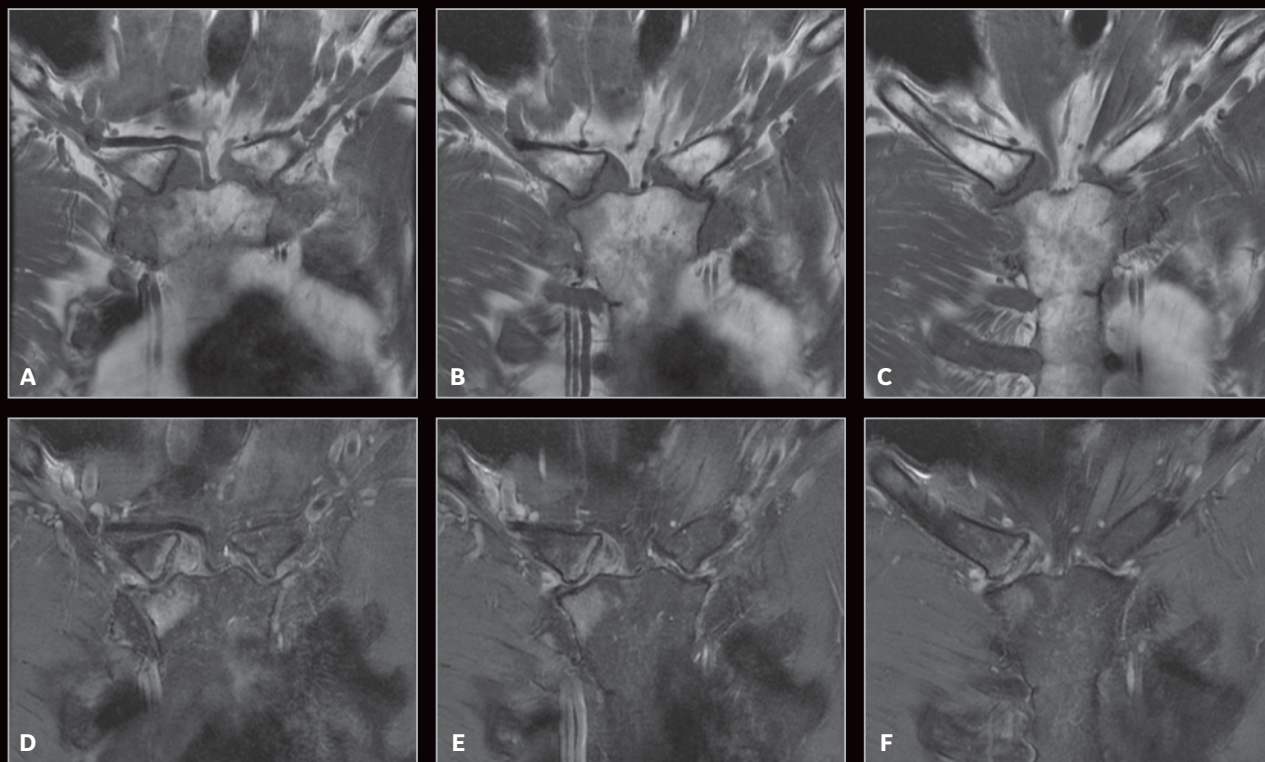

Figure 2. Sternoclavicular joint imaging with AIR™ AA Coil. (A-C) T1 coronal and (D-F) T2 coronal FatSat.
Figure 2. Coronal PD FSE shoulder exam (A) without PROPELLER, $0.3 \times 0.4 \times 3$ mm, 4:04 min., and (B) with PROPELLER, $0.3 \times 0.3 \times 3$ mm, 3:43 min.